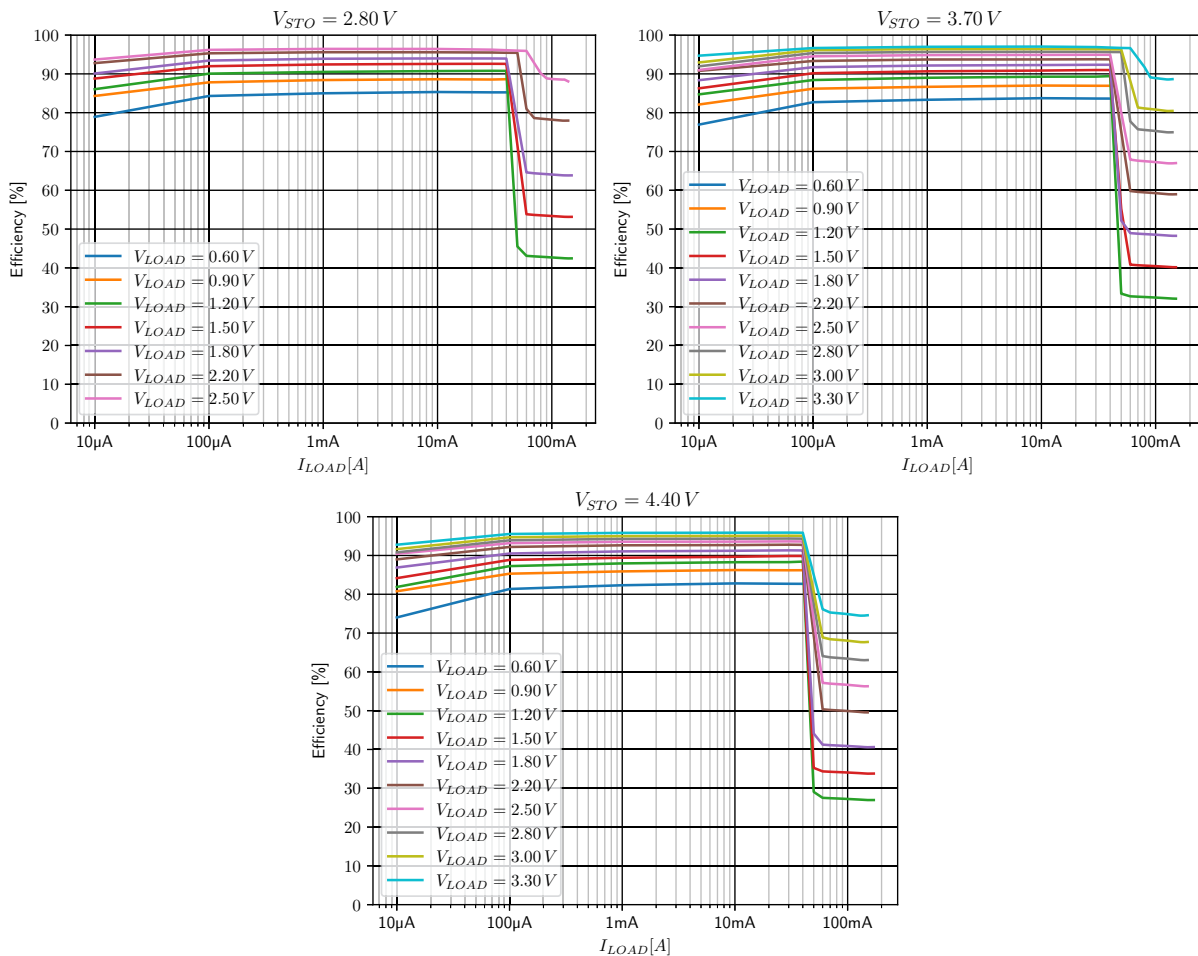

Figure 8: Buck (LOAD) converter efficiency with $L_{BUCK} = 10 \mu H$ (TDK VLS252012CX-100M-1), $T_{MULT} = x2$
- Optional: a device able to act as an I²C master and send I²C commands to the AEM13921. Only useful when testing settings that are not accessible through the configuration pins, such as buck timings. Please note that the results shown on Figure 8 are with buck timing x2, that is the default value when not configuring the AEM13921 through the I²C registers. If using the I²C bus, the default value of the BUCKCFG register is 0x03 (timing x4).